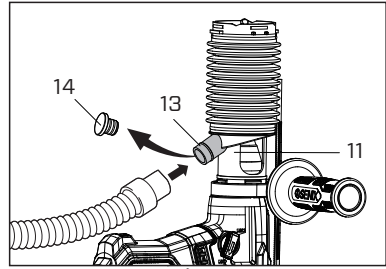

Fig.5
The Dust Cup Holder(11) is designed with a Connector(13) for vacuum cleaner. Remove the Dust Cap(14) before connection (Fig.5).